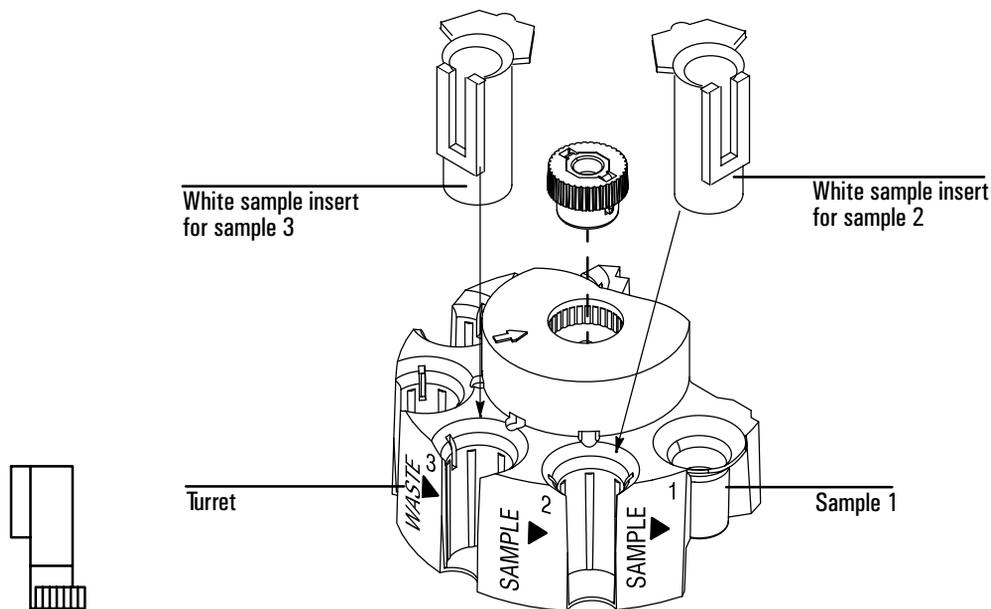

Figure 66. Placing sample inserts for three sample vials
2. Open the tower door. Unscrew and remove the knurled nut from the top of the turret. (See Figure 66).